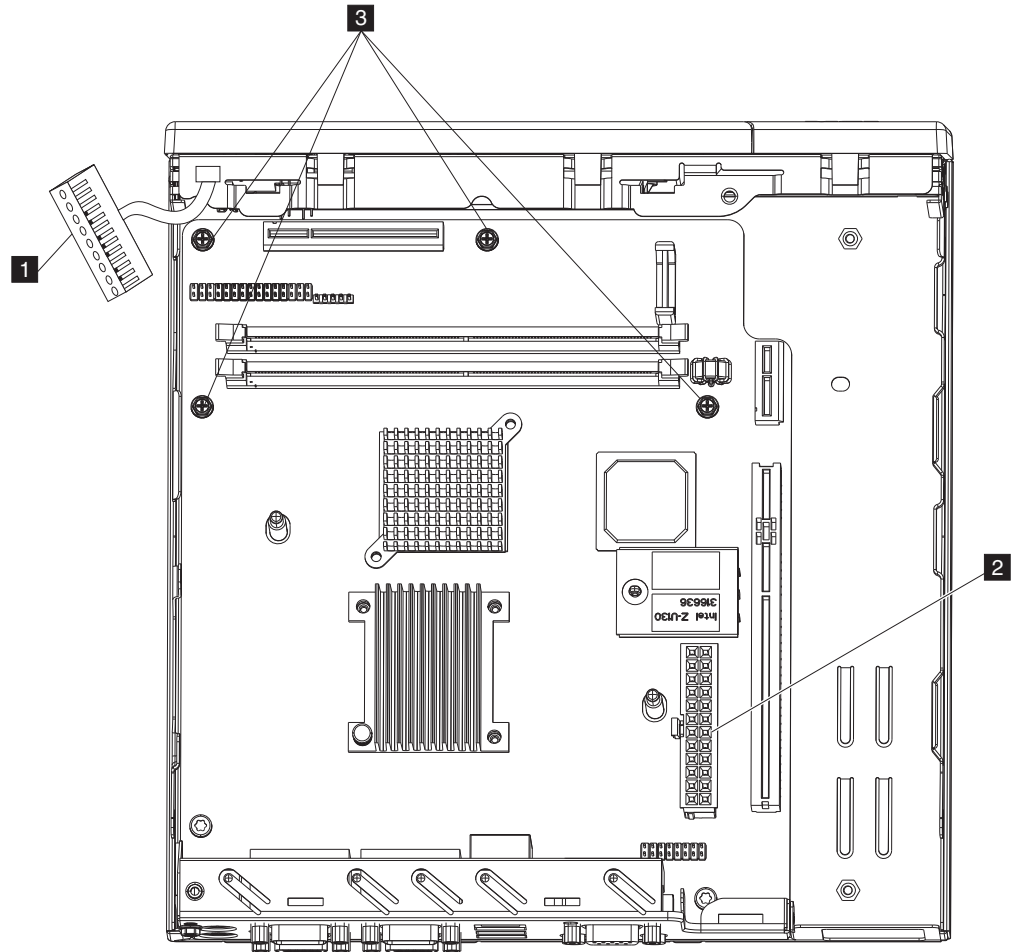

Figure 21. Removing the system board
7. Remove the four system-board retaining screws **3** on the system board. See Figure 21.